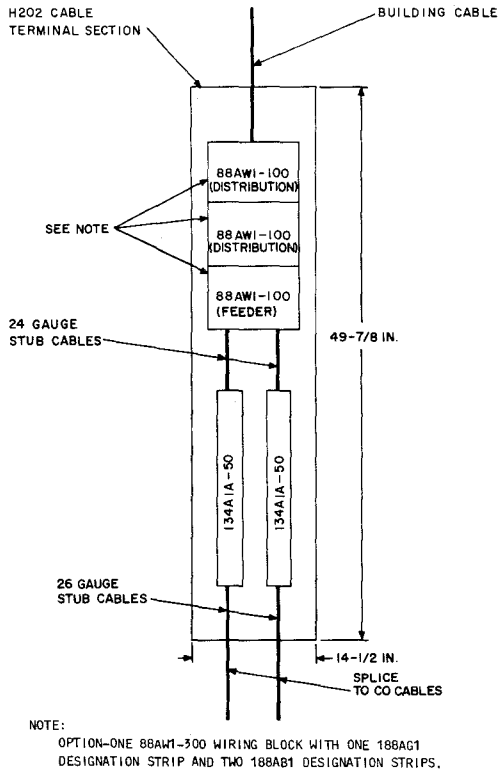
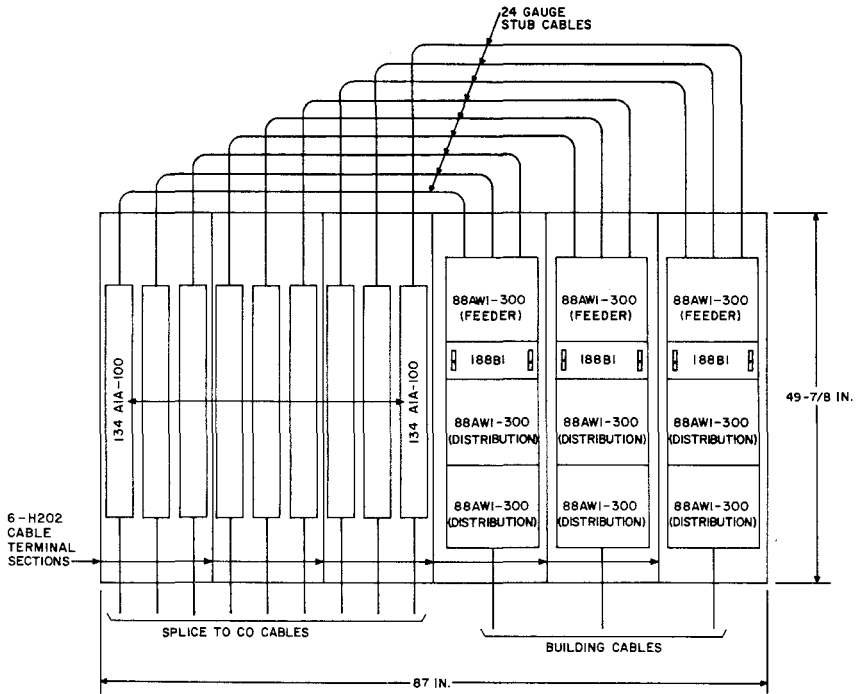

Fig. 7—100-Pair Entrance Cable—134-Type Protectors—200-Pair Building Cable
Fig. 11—900-Pair Entrance Cable—134-Type Protectors—1800-Pair Building Cable
3.03 Install the 134-type protectors and 88-type wiring blocks as shown in Fig. 7, 8, 9, and 10. Wiring blocks should be mounted initially with the top slanted outward to facilitate routing of stub cable(s). Each column of wiring blocks shall be spaced 2 inches apart when **more than one** feeder wiring block is required in each column. Place the 188B1 backboard between the feeder and distribution wiring blocks if the configuration requires **more than two** vertical columns (see Fig. 11).